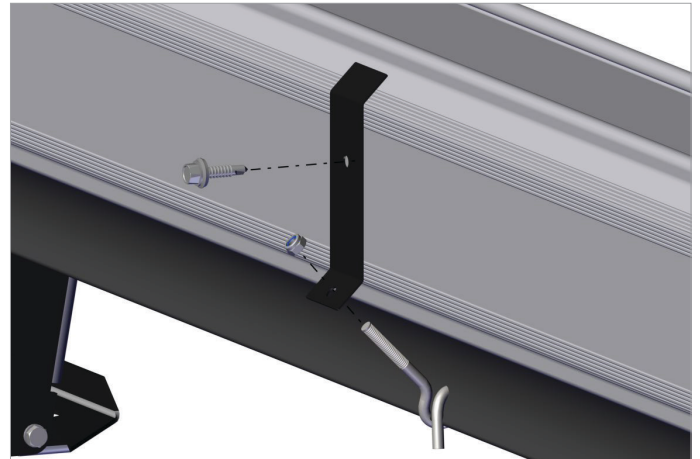

Fig. 4.3.10 Mounting the rope bracket
- Mount the rope bracket(s) using self-tapping screws 6,3 x 25. Mount the rope brackets equally divided over the rail. Refer to fig. 4.3.10.